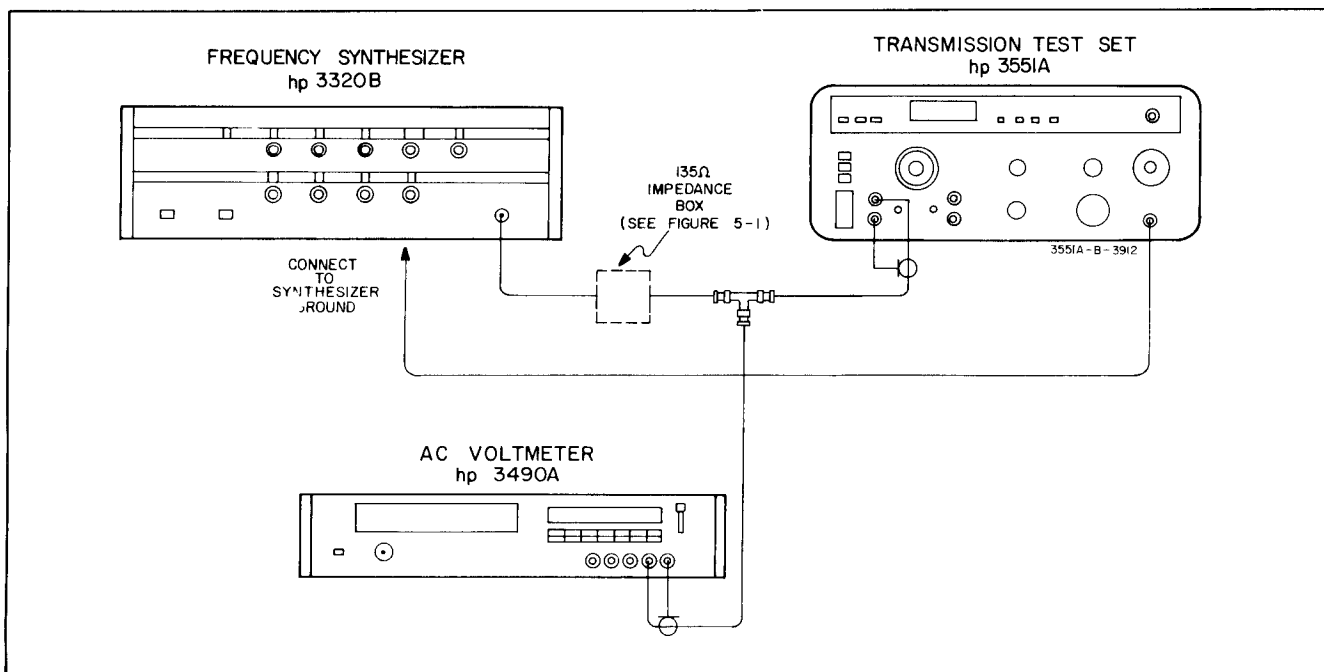

Figure 5-2. Receive Level Accuracy Test Setup.
- Connect the equipment as shown in Figure 5-2.